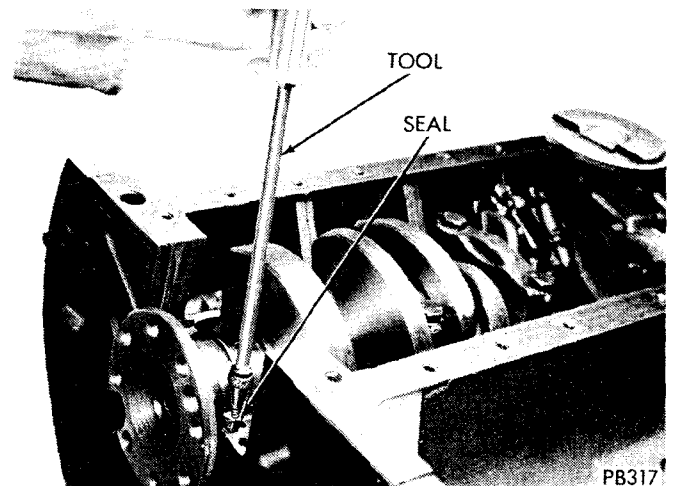

Fig. 46—Removing Upper Oil Seal with Tool C-4148
(1) With oil pan removed, remove rear seal retainer and rear main bearing cap.
(2) Remove lower rope oil seal by prying from the side with a small screwdriver.
(3) Remove upper rope seal by turning in Tool C-4148 into the end of the seal, being careful not to damage the crankshaft (Fig. 46). Pull the seal out with the tool while rotating the crankshaft.